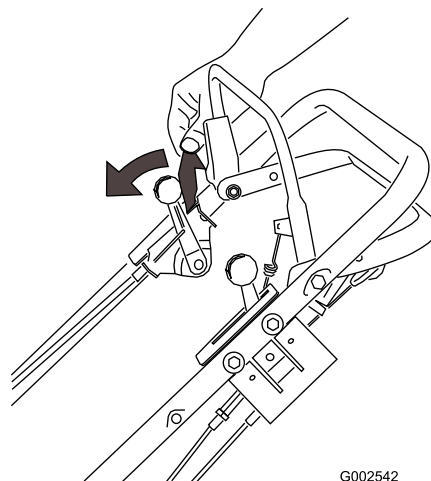

Figure 12
1. Push the control bar lock forward (Figure 12).